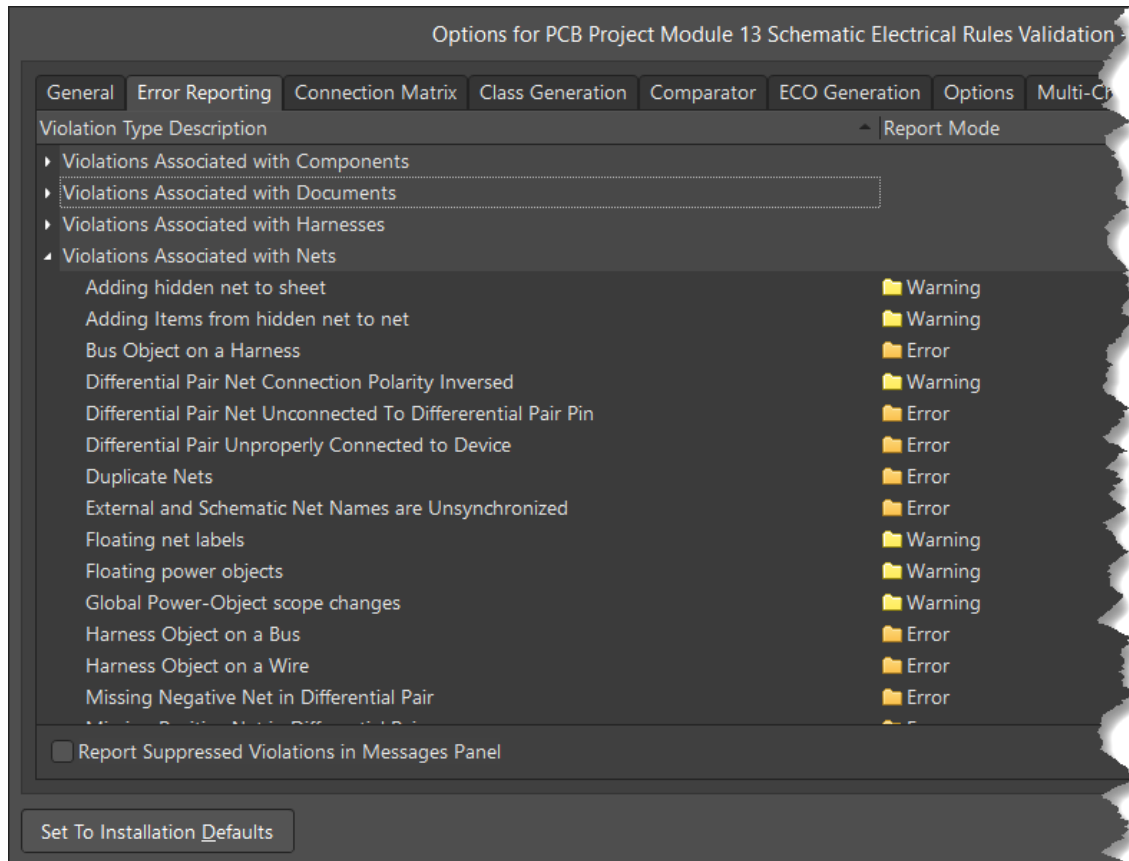

Figure 1. Project Options Error Reporting Tab
10. Click on the *Error Reporting* tab as shown in Figure 1.